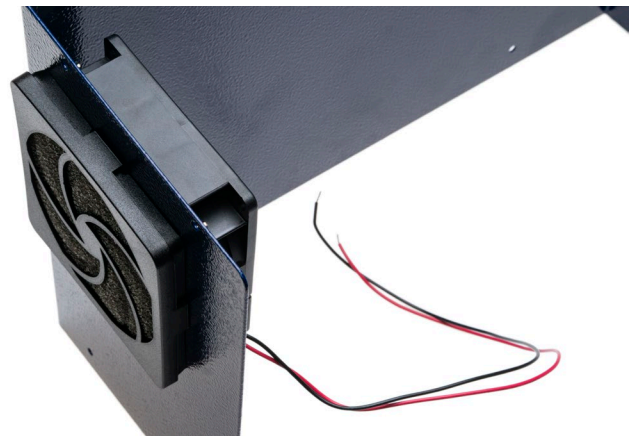

Fig. 7: The filter cover is snapped onto the fan cover together with the filter fleece.
- Mount the fan **6** with the fan screws **16** and the fan cover on the housing cover **1**, as shown in Fig. 7.